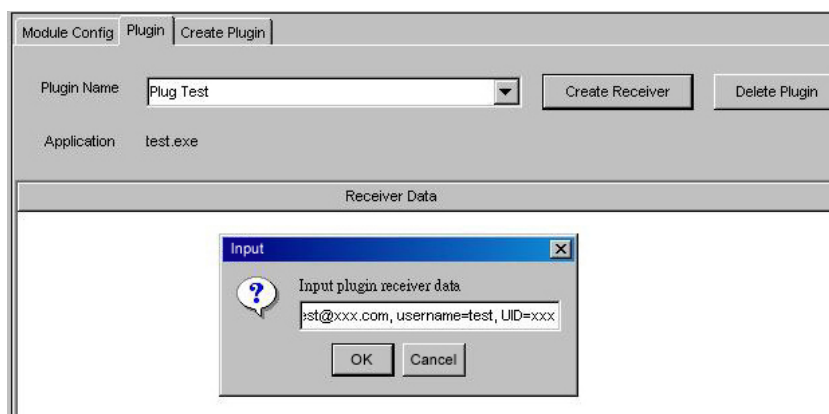

Figure 4-22: Create Plug-in Receiver Profile
**Step 6.** Enter the configuration string to be read when the application program starts. (See *Figure 4-22*) A configuration argument may look like this: